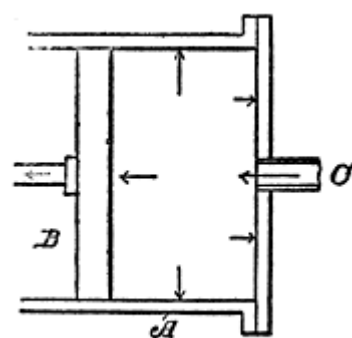

Fig. 131. Steam Pressure
Fig. 131 shows a cylinder (A), a piston (B) and a steam inlet port (C), in which is indicated how the steam pressure acts equally in all directions. As, however, the piston is the only movable part, the force of the steam is directed to that part, and the motion is then transmitted to the crank, and to the shaft of the engine.